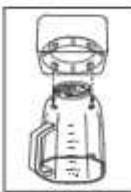

Fig. 15
- a. For models with Boroclass[®] glass jar only, turn jar upside down and place the collar on the small/bottom opening of the jar ensuring the notches in the collar fit into the four tabs on the jar (Fig. 15).